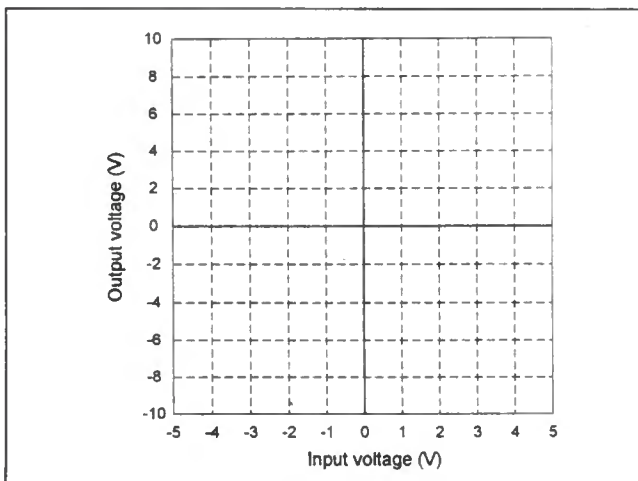

Fig. 5.9 Output voltage plotted against input voltage for the inverting amplifier $R_F = 1k\Omega$.
- to plot two graphs showing V_{OUT} plotted against V_{IN} for input voltages over the range $-4V$ to $+4V$. One graph will be for $R_F = 1k\Omega$ whilst the other will be for $R_F = 2k\Omega$ (see Figs. 5.9 and 5.10).